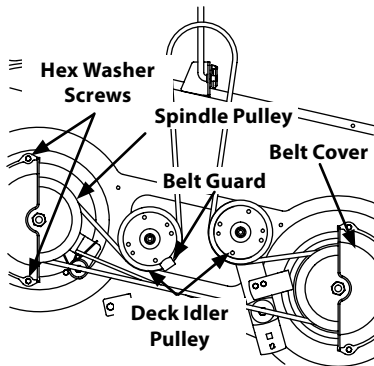

Figure 4-18
- Remove the belt covers by removing the hex washer screws that fasten them to the deck. See Figure 4-18.
- Carefully remove the deck belt from around the two spindle pulleys and the two deck idler pulleys. See Figure 4-18.
- To place the new belt, begin by routing the belt around the two outer spindle pulleys as shown in Figure 4-18.
- Route the belt around the two deck idler pulleys as shown in Figure 4-18.
- Re-install the deck, making sure the belt remains routed around the pulleys as instructed. See Figure 4-18.